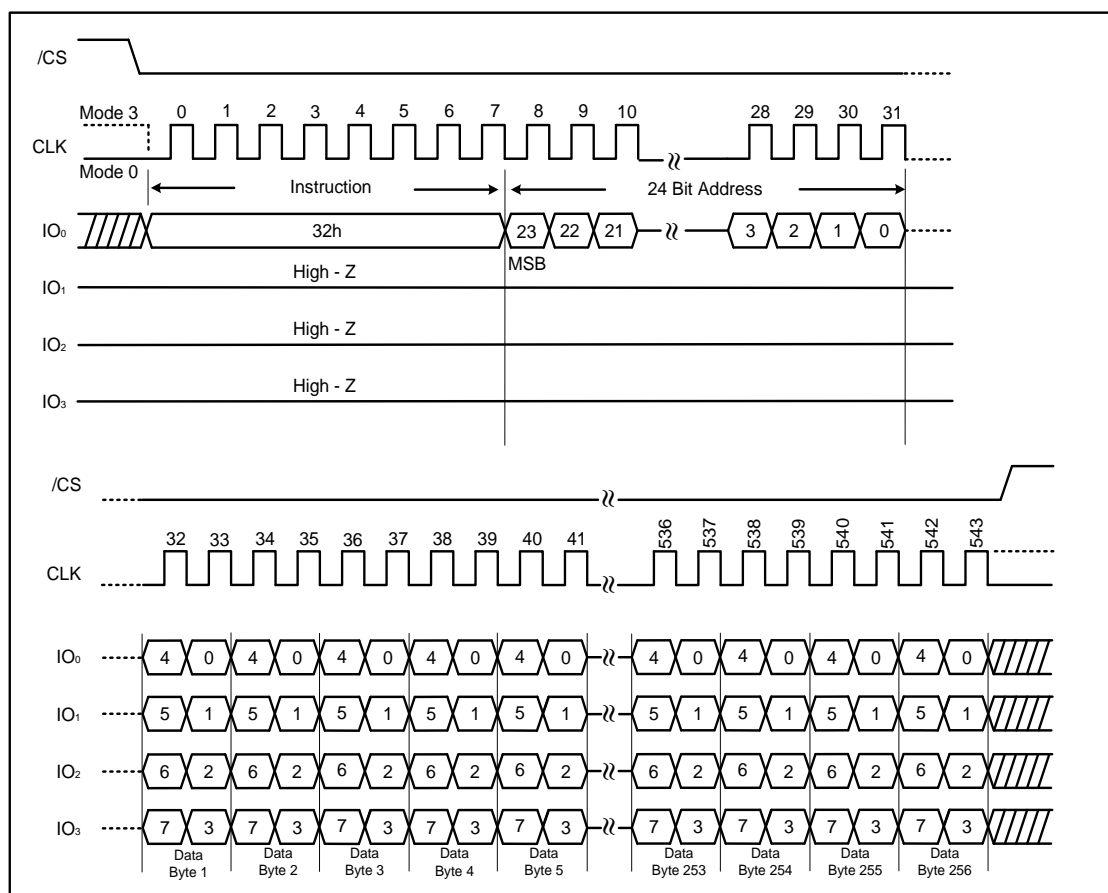

Figure 21. Quad Input Page Program Instruction (SPI Mode only)
To use Quad Input Page Program the Quad Enable (QE) bit in Status Register-2 must be set to 1. A Write Enable instruction must be executed before the device will accept the Quad Input Page Program instruction (Status Register-1, WEL=1). The instruction is initiated by driving the /CS pin low then shifting the instruction code "32h" followed by a 24-bit address (A23-A0) and at least one data byte, into the IO pins. The /CS pin must be held low for the entire length of the instruction while data is being sent to the device. All other functions of Quad Input Page Program are identical to standard Page Program. The Quad Input Page Program instruction sequence is shown in Figure 21.